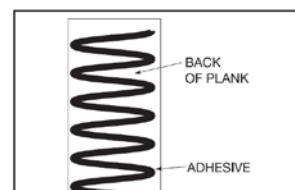

Figure 7
- If the Engineered Hardwood Flooring plank is wider than 5" it must be installed applying a 1/4" serpentine bead of Premium construction adhesive to the back of each board (Figure 7).